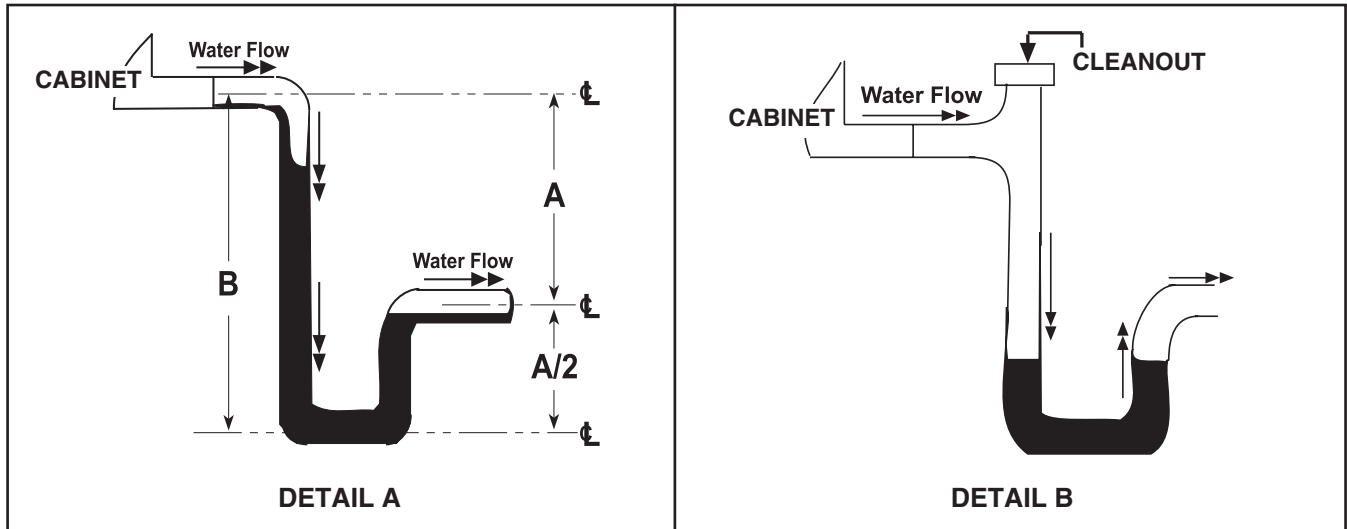

Figure 5. Condensate Drain Trap Dimensions
- a. Dimension A (see Figure 5, DETAIL A) = 3 inches (76 mm) minimum.
- b. Dimension B (see Figure 5, DETAIL A) = $A + A/2$.
NOTE: If dimension B (see Figure 5, DETAIL A) is not tall enough, the water seal will not hold and air will be drawn through the drain pipe into the unit. If the outlet leg of the trap is too tall, water will back up into the drain pan. As condensate forms during normal operation, the water level in the trap rises until there is a constant outflow.
5. Ensure that cleanout (see Figure 5, DETAIL B) is closed to prevent air from entering drain line.